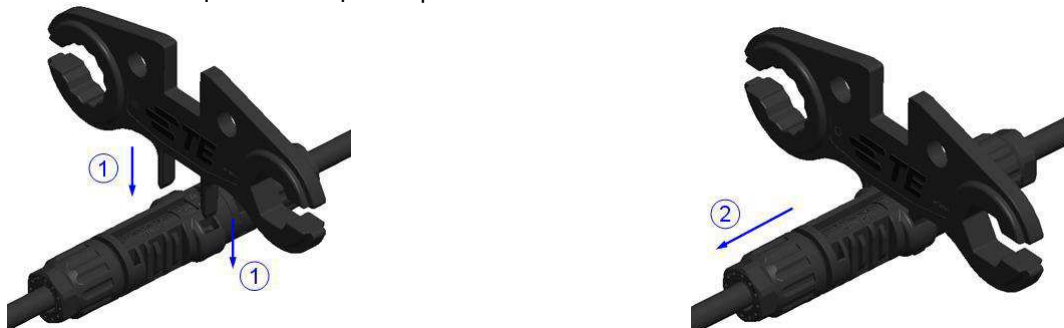

Figure 9
1. The locking mechanism is opened by depressing the latches with hand application tool (PN 1971903-1) as shown in Figure 9.